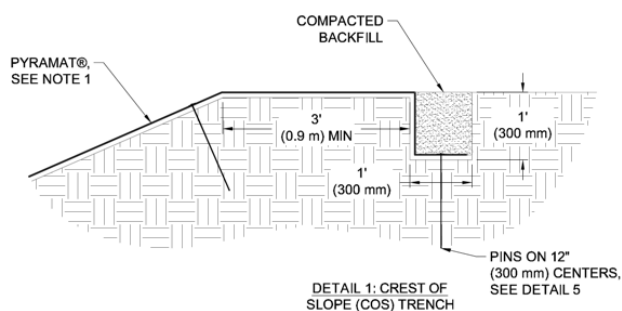

Figure 2: Crest of Slope (COS) trench
4. Excavate a Crest of Slope (COS) trench a minimum of 12 in x 12 in (300 mm x 300 mm) along both sides of the installation. Each COS trench must be a minimum of 3 ft (900 mm) over the crest of the bank, preferably on a relatively flat surface (Figure 2).